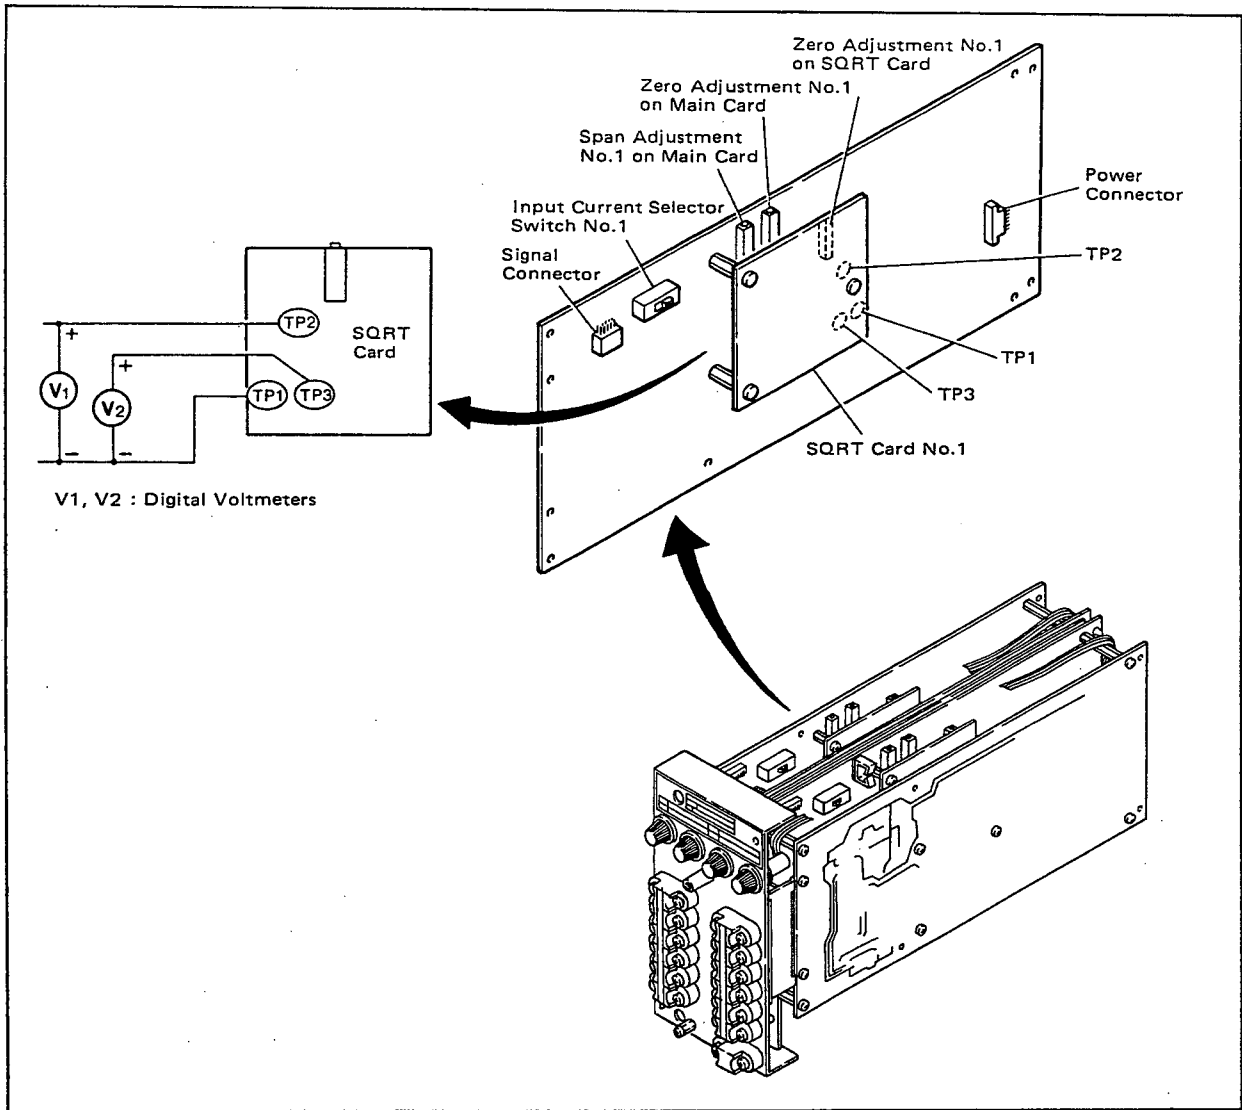

Figure 7-5. Connection of Digital Voltmeters.
- (1) Perform the preparation described in paragraph 7-4-1.
- (2) Using a DC voltage standard, apply a voltage of 2 to 5 V DC to the instrument and adjust instrument zero and span so that the I/O value is within the values listed in Table 7-1 (see Figure 7-5 for the mounting positions of zero and span adjustments).